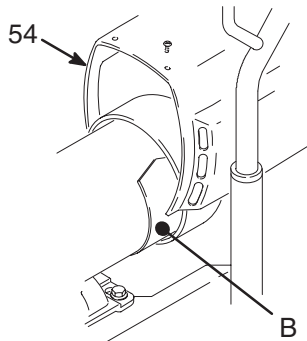

Fig. 9 7703B
2. Remove motor shield (54). Remove inspection covers (B) and gaskets on each side of motor. See Fig. 9.